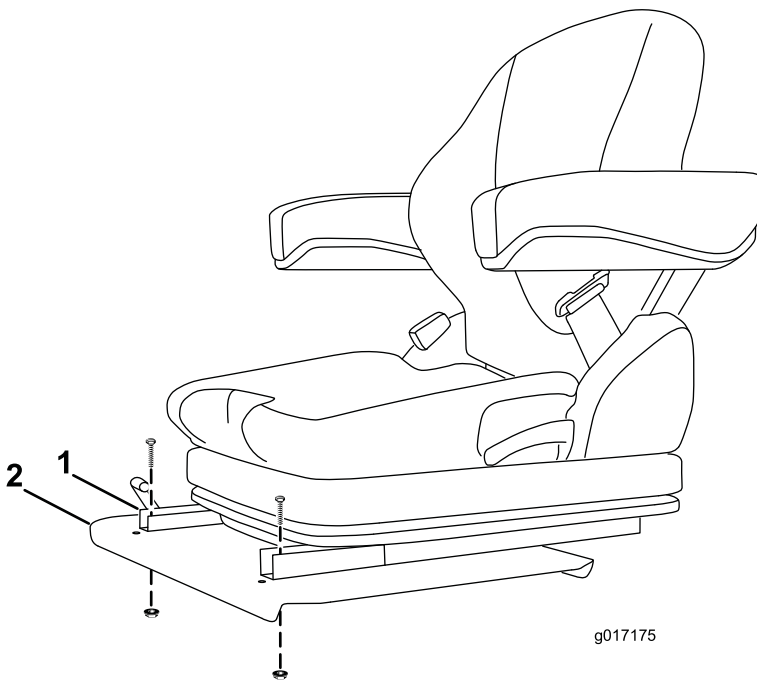

Figure 9
2. Mount the front of each seat slide to the seat plate with a bolt and flange nut (Figure 9).